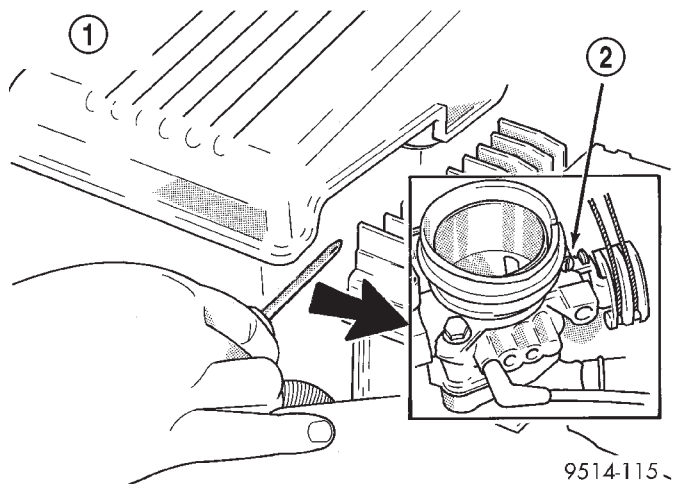

Fig. 25 Air Inlet Resonator Attachment to Throttle Body
- (1) Loosen screw holding resonator to throttle body (Fig. 25).
- (2) Loosen clamp holding resonator to air inlet tube. Remove resonator.